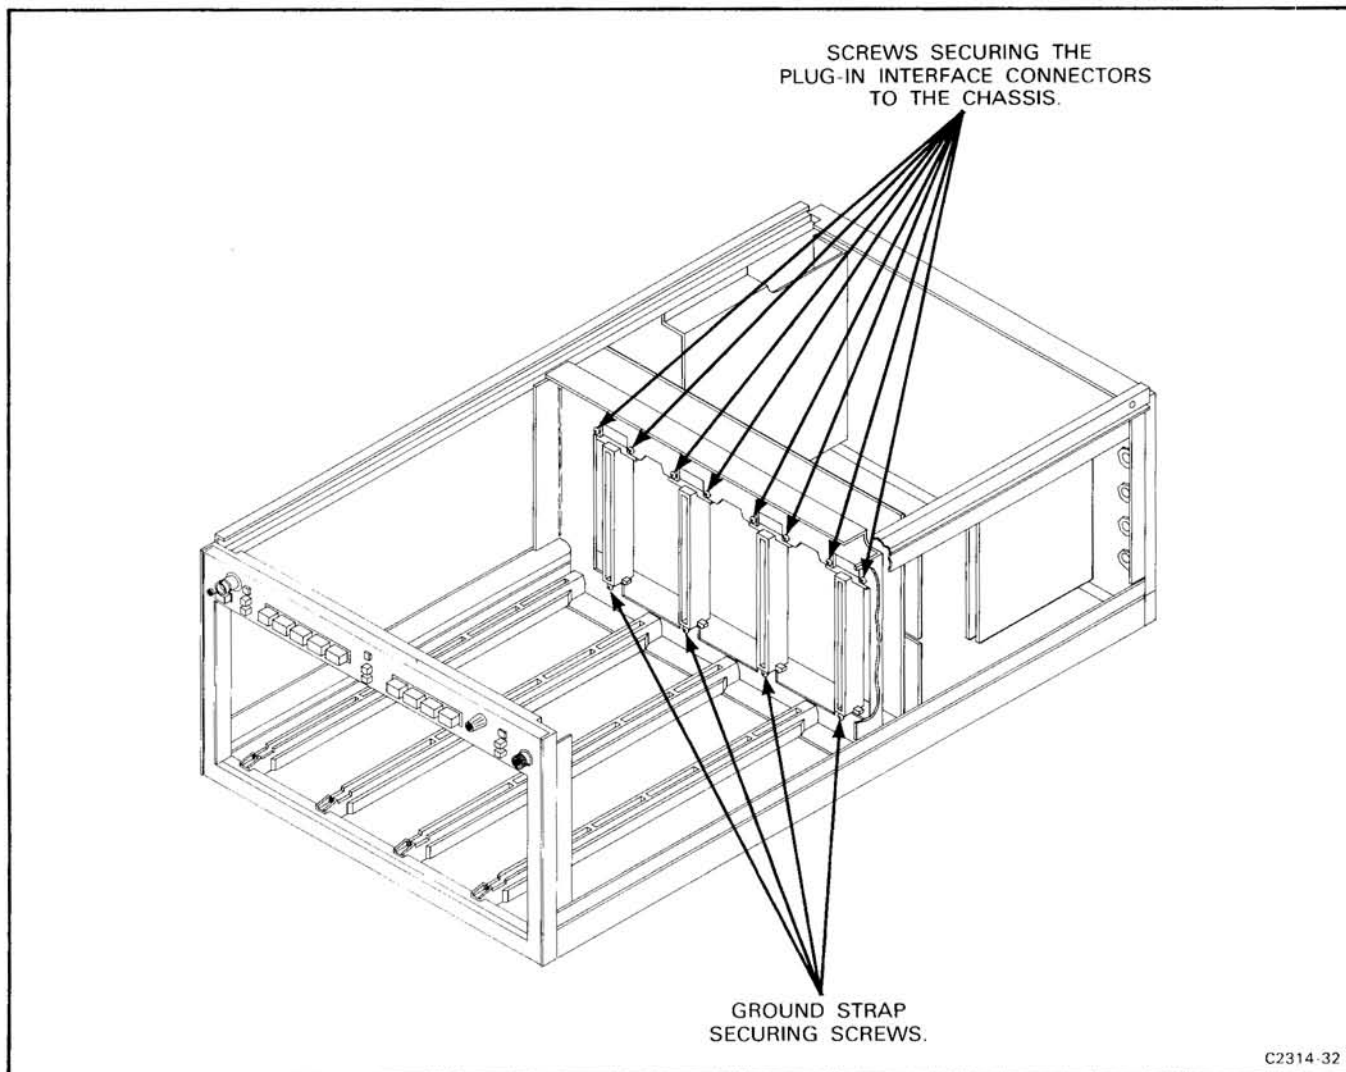

Figure 5-12. Location of securing screws for the Main Interface board.
4. Remove the screws from inside each plug-in compartment which hold the plug-in interface connectors to the chassis (see Figure 5-12). Also remove the screws which hold the ground straps to the chassis.